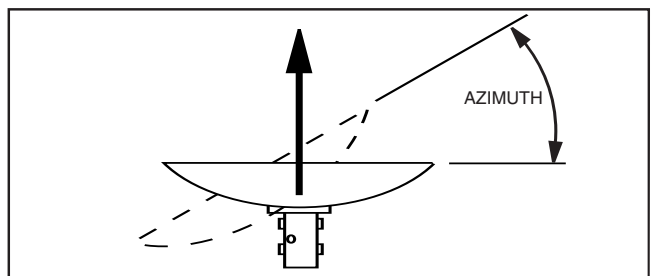

FIG. 2.1 - ROTATING ANTENNA FOR AZIMUTH
Use Chart 3 and determine your azimuth setting. **Values in chart must be adjusted for magnetic deviation for your location for correct compass reading.** Equally tighten the four azimuth locking bolts (15) until snug, and back off 1/8 turn. This will allow azimuth rotation with slight resistance, without AZ/EL cap tilting on pole. Rotate the reflector and AZ/EL cap, pointing it to the correct compass reading for your location and satellite. Refer to Figure 2.1. If desired signal is not found, increase or decrease elevation setting and repeat the azimuth sweep until desired signal is found. Tighten progressively (1/8 turn each) all four azimuth bolts (15). Repeat until 70-80 ft-lbs (95-108 N-m) torque is reached.